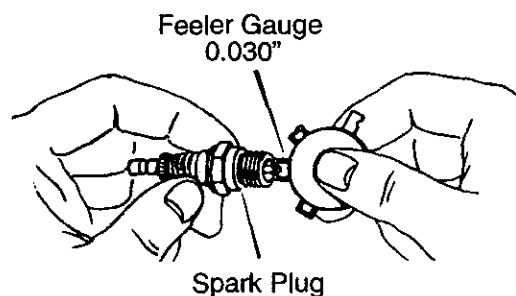

Figure 18
2. Check the **spark plug** gap with a **feeler gauge** and reset gap to 0.30" if necessary. See Figure 18.